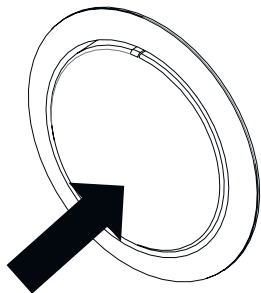

Fig. 15: Pop out off
- When cooking is finished, turn the switch to the off (top) position and press it inwards (Fig. 15).